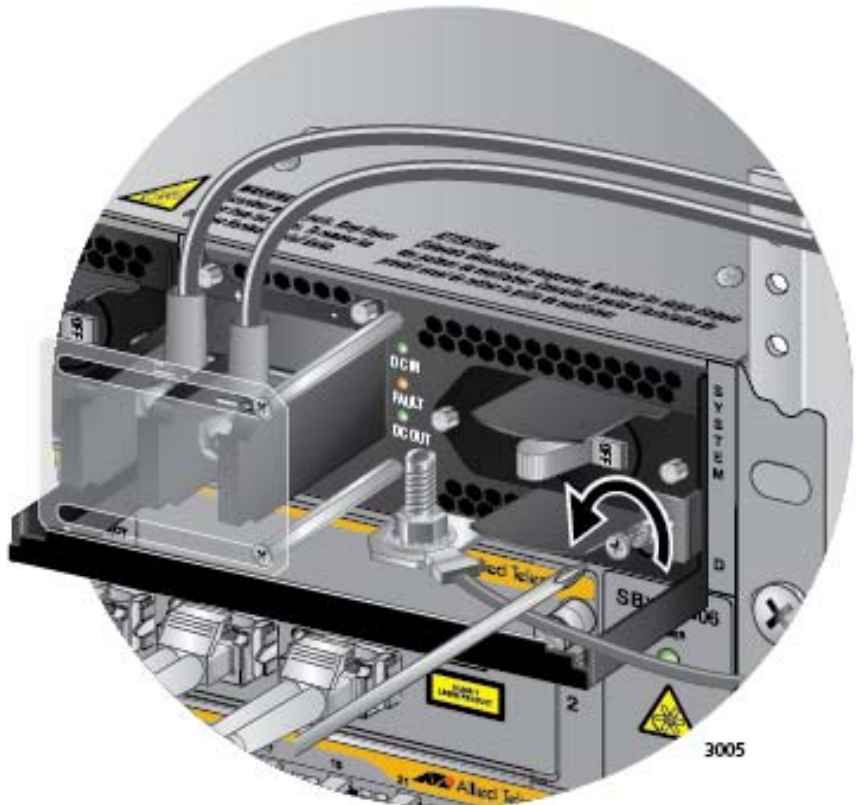

Figure 170. Loosening the Screw on the Locking Handle
3. Use a #2 screwdriver to loosen the screw on the locking handle. Refer to Figure 170 on page 273.